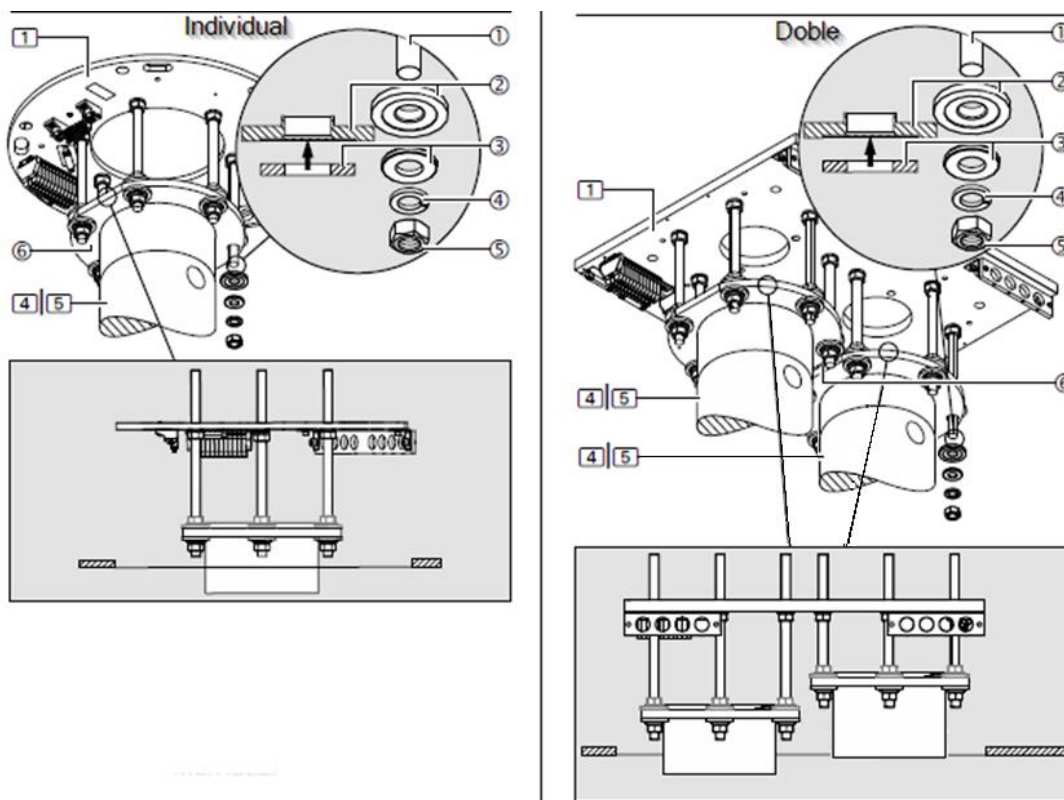

Fig. 14 Mounting of the roof tube flange on the threaded bolts
This section explains the assembly of the structural part of the equipment on the threaded bolts of the interface plate. Figure 14 shows the elements that arrive pre-assembled for an S-COLUMN system (right picture) and an S-COLUMN MOTOR system (left picture) with double arm. The assembly is identical for all other variants.
Figure 14 shows a simplified representation of the roof tube flange ⑥ for mounting on the threaded bolts. Other components such as extension arm, cables, etc. are not shown.